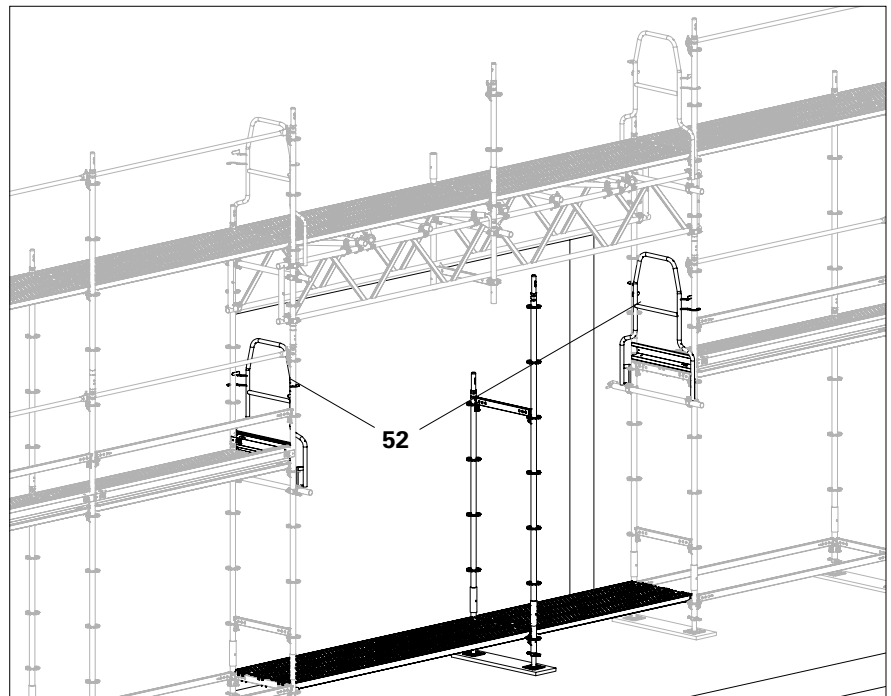

Fig. C3.06
1. Install an End Guardrail in Advance UPA-2 (52) or horizontal ledger along the subsequent opening on the basic scaffold.
2. Dismantle the auxiliary scaffolding. (Fig. C3.06)